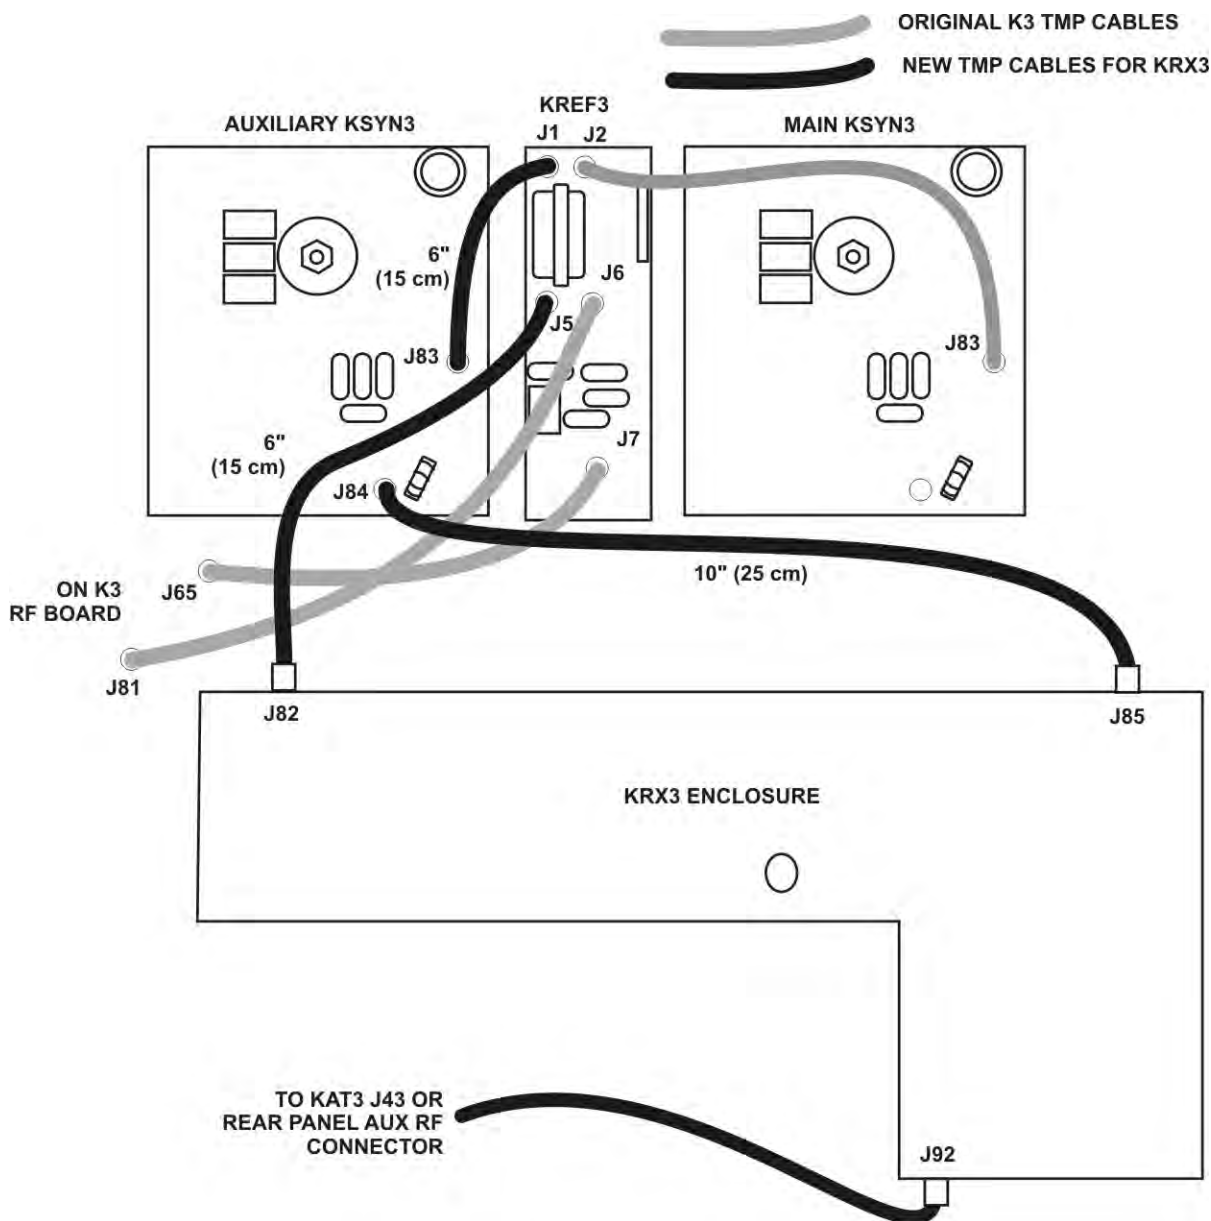

Figure 49. TMP Cable Connection Pictorial Diagram.
- Connect a 6" (15 cm) TMP cable to J5 on the KREF3 board (see Figure 49).
- Connect a 6" (15 cm) TMP cable between J1 on the KREF3 board and J83 on the Aux KSYN3 board as shown in Figure 49.
- Hold the assembled KRX3 module directly over the K3 and attach the TMP cables to J82 and J85 on the module as shown in Figure 49.